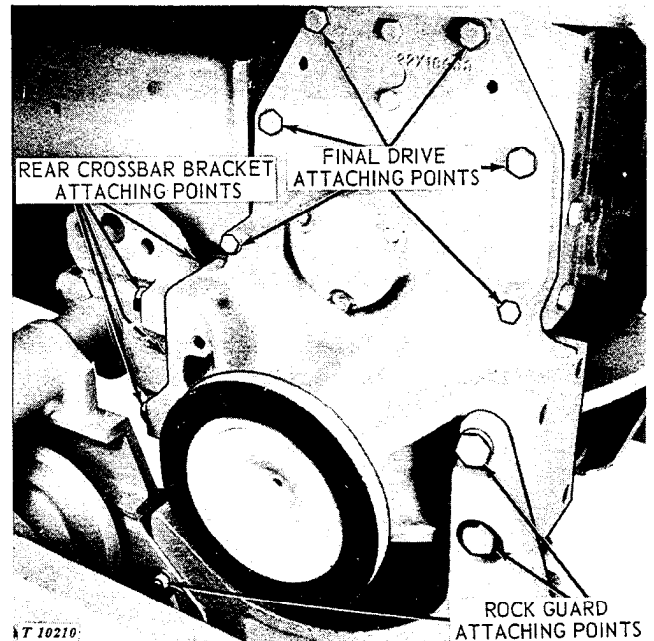

Fig. 20-15-5—Final Drive Attaching Points
12. Remove cap screws attaching oil pan rock guard to final drive and roller frame (Fig. 20-15-5).
13. Remove outer cap screws which hold final drive housing to steering clutch housing (Fig. 20-15-5).
14. Remove four special cap screws which attach final drive housing to rear crossbar bracket (Fig. 20-15-5).